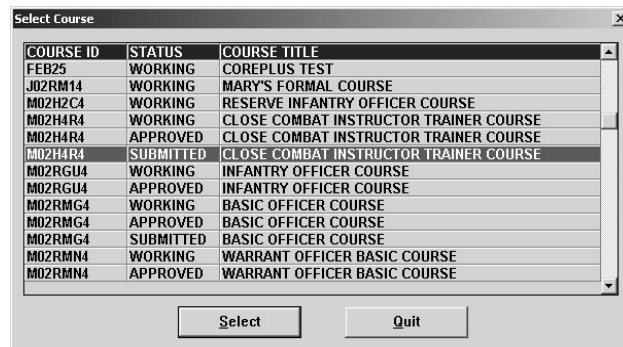

Figure 6-39. Select Course
1. From the Current Task dialog box (Figure 6-38), choose Copy Task From Another Course and click on **Proceed**. The Select Course selection list box (Figure 6-39) opens displaying only those courses to which you have access.